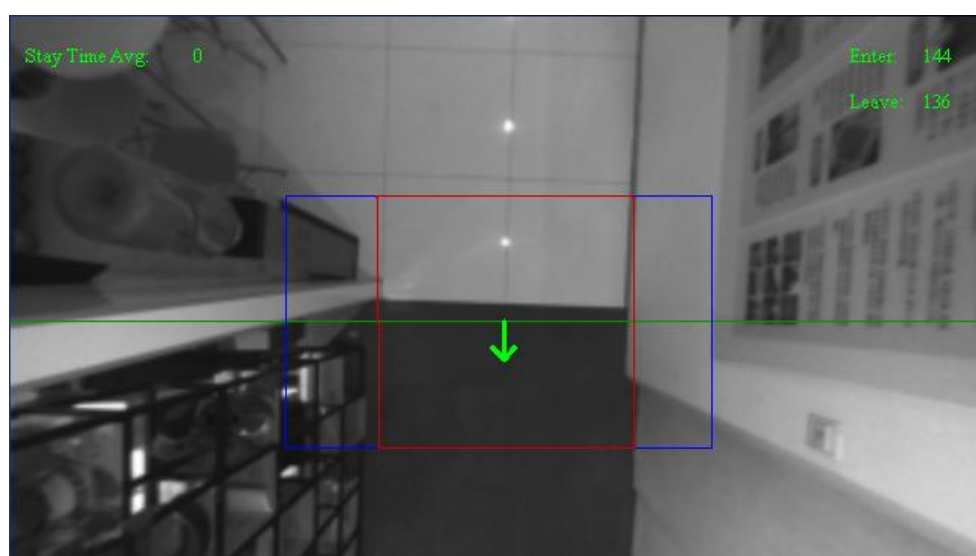

Figure 2-12 Example of detection area drawing
- The detection area should be slightly larger than or equal to the actual area to be covered, and there is no need to set the maximum detection area as the current detection area. This helps reduce interference from objects such as sundries or white walls on both sides, as shown in Figure 2-12.